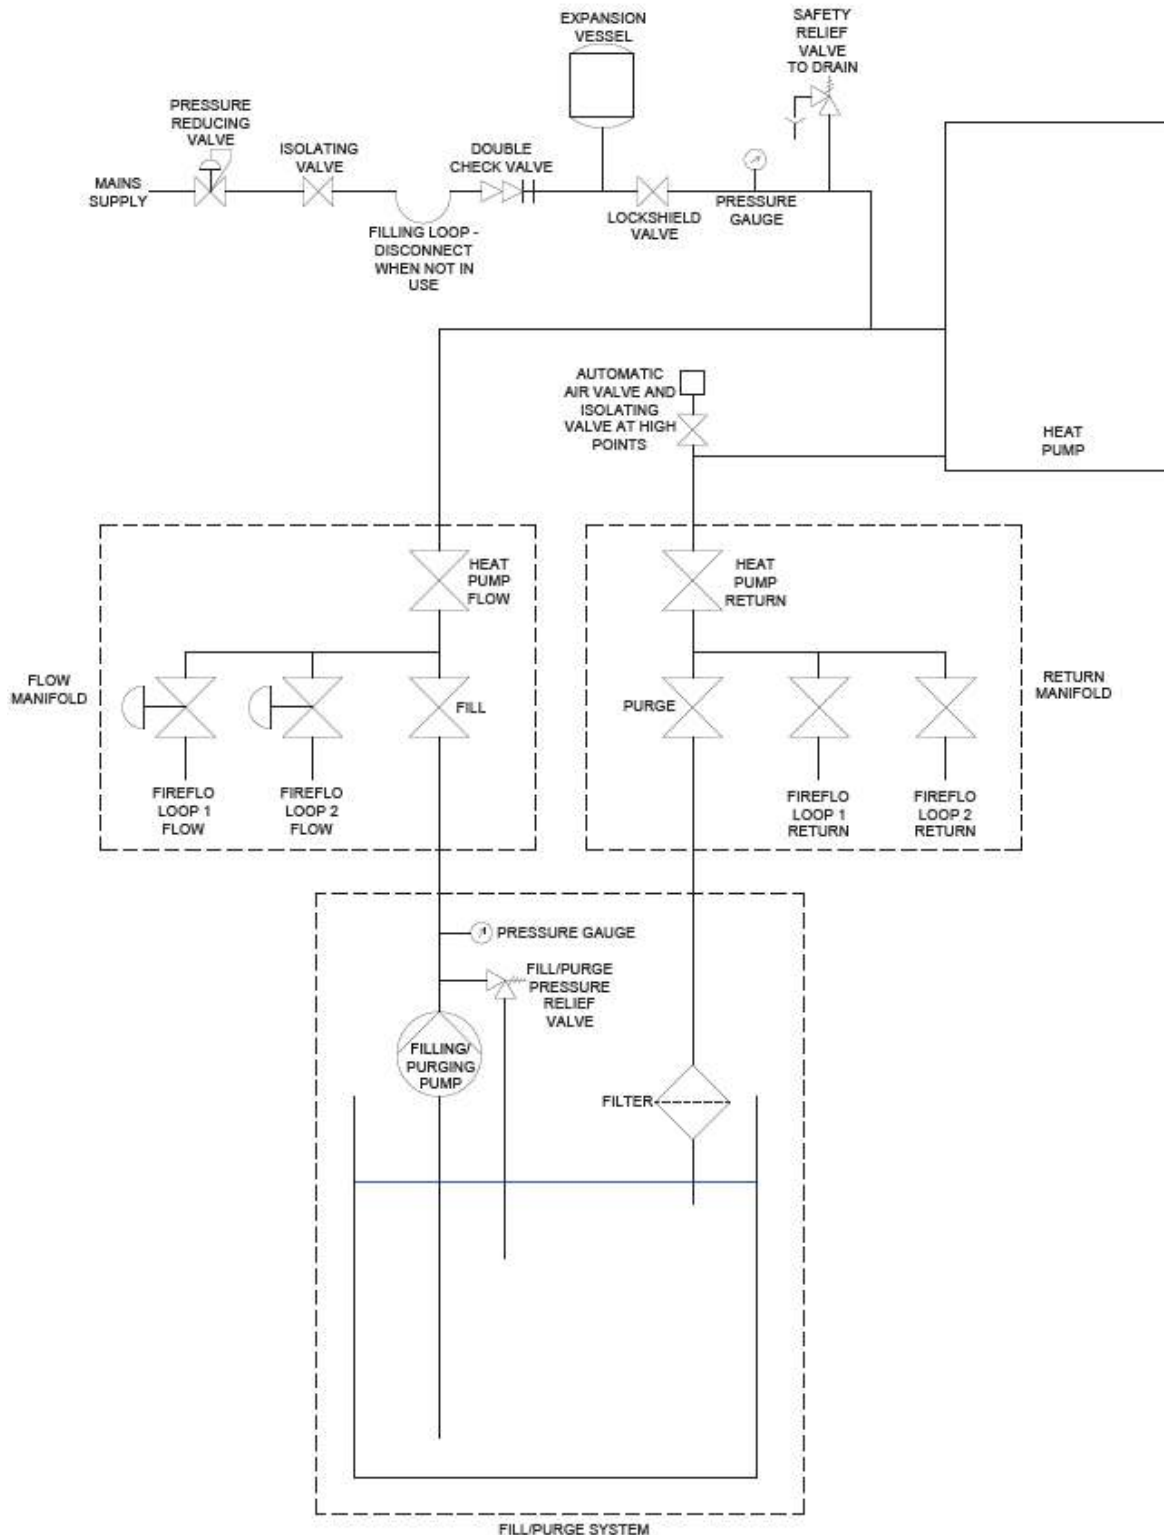

Figure 11: typical collector system configuration incorporating FireFlo collectors
The collector system should first be filled with clean water. The fill/purge system should be connected to the fill and purge connections on the collector system. These connections would typically be incorporated into the flow and return manifolds. However, if there are no manifolds, the connections can be built into the flow and return pipes. Figure 11 shows a typical collector system configuration with the fill/purge system connected to the fill and purge valves.
1. Connect the fill/purge system to the fill and purge ports on the flow and return manifolds as per Figure 11. The ports can be connected either way round.
- b. Using the mains filling loop. Ensure the lockshield valve is fully closed (refer to Figure 11) and the setpoint on the pressure reducing valve is set to the desired operating pressure. Open the filling loop isolating valve. Slowly open the lockshield valve until a gradual increase in system pressure is observed. Leave the filling loop isolating valve open until the system pressure gauge shows the desired pressure. Close the isolating valve. Hold the system at the desired pressure for 10 minutes, reopening the filling loop if necessary.